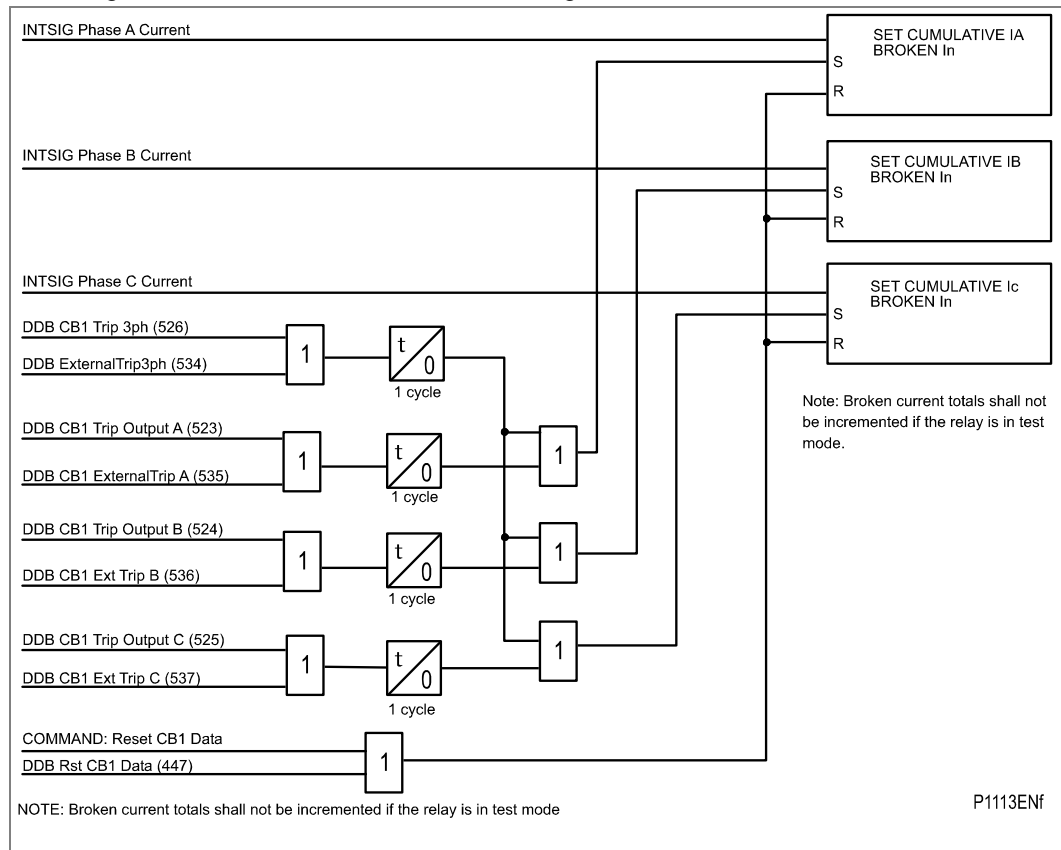

Figure 109 - CB1 condition monitoring - broken current
- Figure 109 - CB2 condition monitoring - broken current